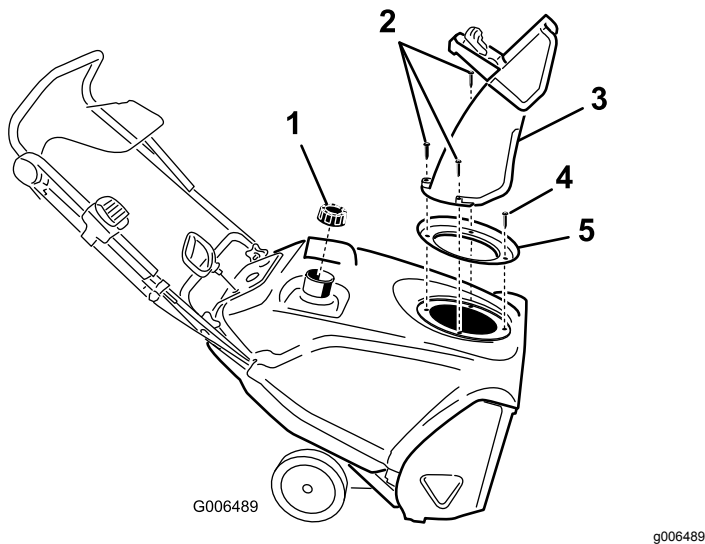

Figure 25
3. Remove the discharge chute, the discharge-chute handle, and the chute seal by removing the 3 large screws and 1 small screw (**Figure 25**).